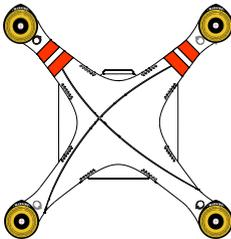

Figure 2-1
1. (Figure 2-1) Remove the four warning cards from the motors after you've read them.